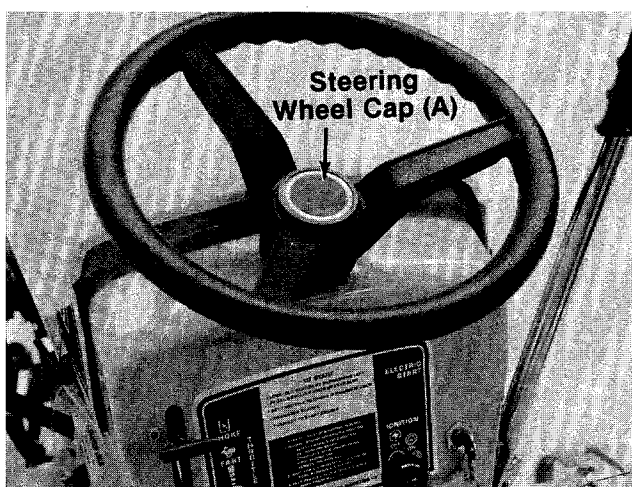

**FIGURE 3.**
3. Secure with belleville washer (B) and hex lock nut (C). See figure 3.